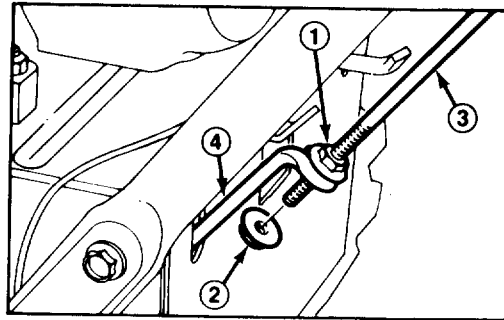
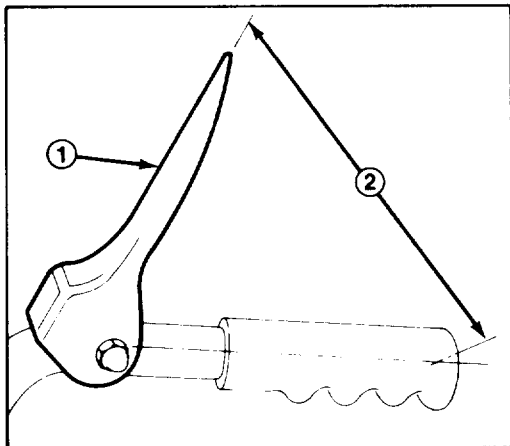

Figure 26
Figure 27
1. Loosen locknuts securing upper traction control rod to lower traction control rod (Fig. 26).
2. Adjust upper locknut (Fig. 26) until there is approximately 6 inches (15 cm) between the center of the handle and the tip of the traction control lever (Fig. 27).